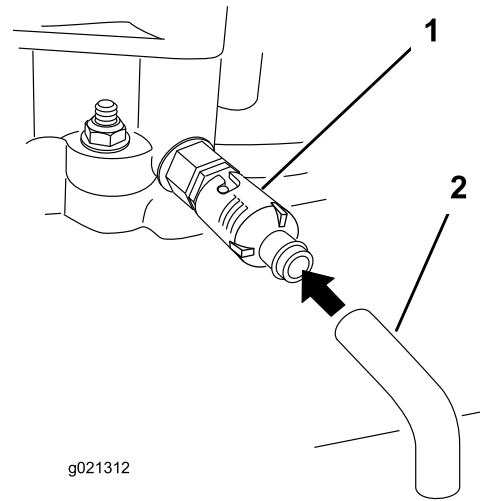

Figure 23
5. Place a pan below the drain hose. Rotate oil drain valve to allow oil to drain (Figure 23).
7. Remove the drain hose (Figure 23).